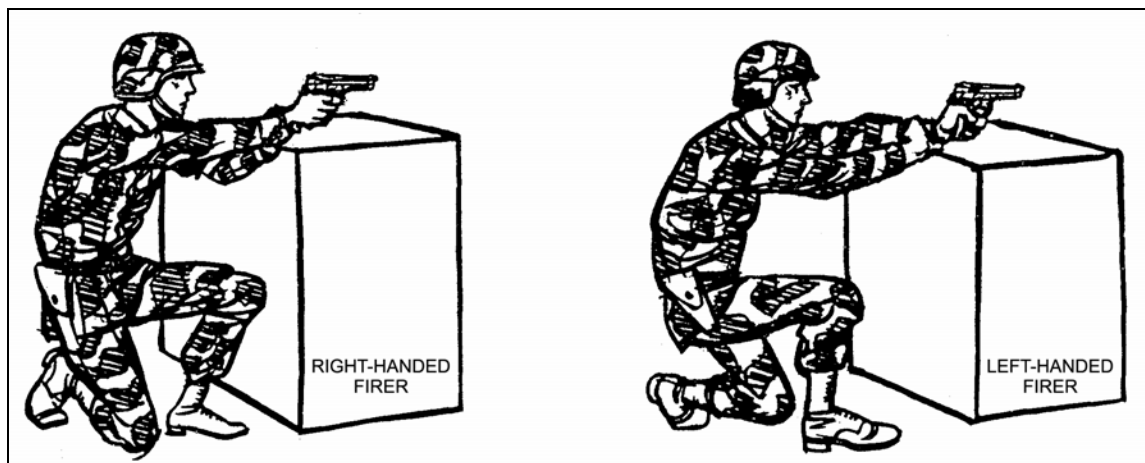

Figure 2-14. Kneeling supported.
g. **Kneeling Supported Position.** Use available cover for support--for example, use a low wall, rocks, or vehicle (Figure 2-14). Place your firing-side knee on the ground. Bend the other knee and place the foot (nonfiring side) flat on the ground, pointing toward the target. Extend arms alongside and brace them against available cover. Lock the wrist and elbow of your firing arm. Place the nonfiring hand around the fist to support the firing arm. Rest the nonfiring arm just above the elbow on the nonfiring-side knee.